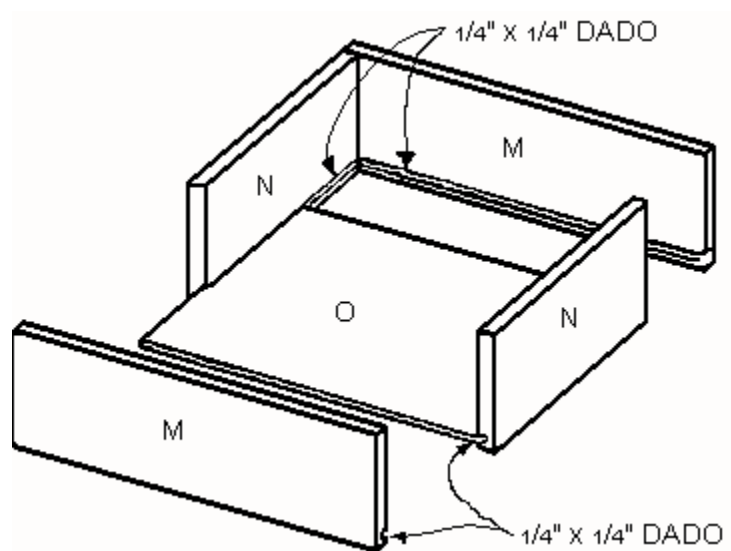

Figure 6
1. Cut two drawer front/back (M) from 3/4-inch plywood, each measuring 5-5/8 x 17-3/8 inches.
2. Cut two drawer sides (N) from 3/4-inch plywood measuring 5-5/8 x 12-3/4 inches.
3. Cut one drawer bottom (O) from 1/4-inch plywood measuring 13-1/8 x 16-1/4 inches.
4. Cut a 1/4 x 1/4-inch dado on the inside of each drawer piece (M and N) 3/8 inch from the lower edge, to accommodate the drawer bottom (O).
5. Assemble the drawer as shown in *Figure 6*. Note that the drawer front/back pieces (M) overlap the ends of the drawer sides (N). Use two 1-1/2-inch (4d) nails on each end of the overlapping boards.